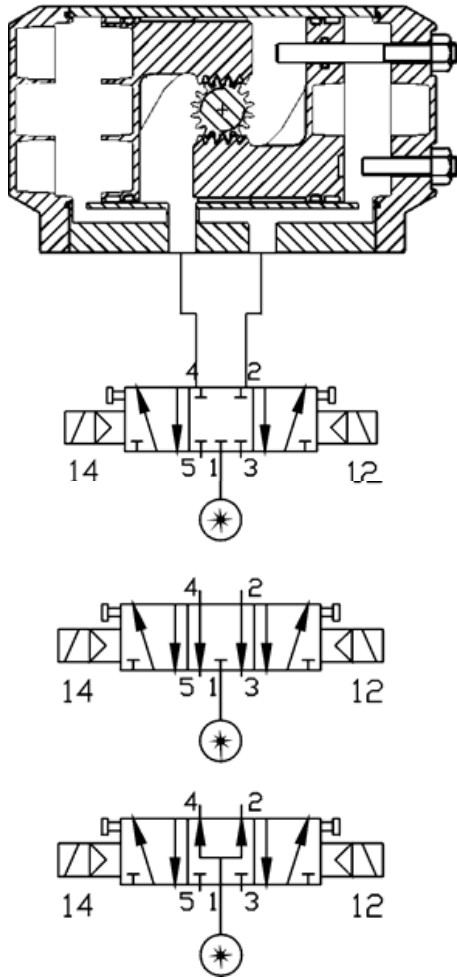

Figure 7
- **4 way (4/3)** for Double Acting actuators: air goes from the supply Port 1 to the Port 2, filling the cavity between the pistons and the end caps, closing the actuator (see fig. 7);